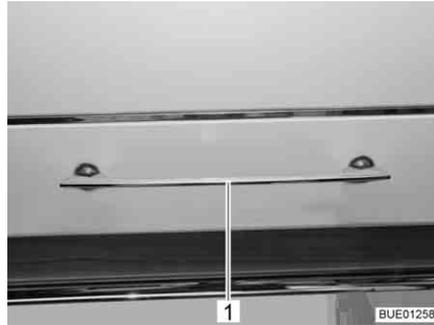
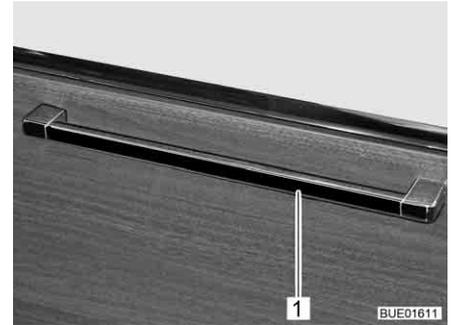

Fig. 73 Furniture flap with release handle
Fig. 74 Furniture flap with release handle (alternative)
- Press the release handle (Fig. 73,1 or Fig. 74,1) upwards, to the side or downwards depending on the fitted position and hold it down.